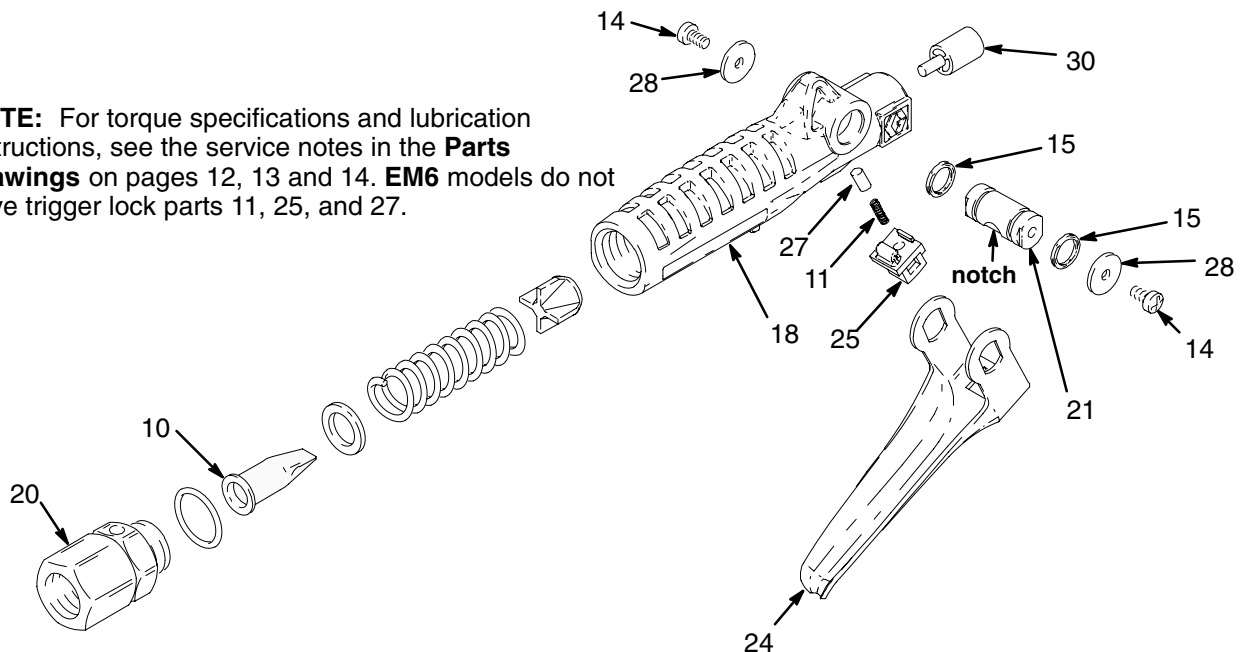

Fig. 3
See Fig. 3.
6. Lubricate the cam, and slide it into the valve handle, making sure the notch is oriented as shown in Fig. 3. Ensure that the large end of the pushrod is resting in the notch of the cam.
7. Replace the screws (14) and washers (28), and torque the screws to 15 to 25 in-lb (1.7 to 2.8 N-m).
8. Replace the swivel (20), and torque to 15 to 20 ft-lb (20 to 27 N-m).
2. Unscrew the hose fitting from the swivel (20).
3. Remove and replace the filter (10), which is inside the valve handle (18). Make sure the filter is oriented as shown in Fig. 3.
4. Thread the hose fitting into the swivel (20), and tighten. Make sure the swivel (20) is torqued to 15 to 20 ft-lb (20 to 27 N-m).